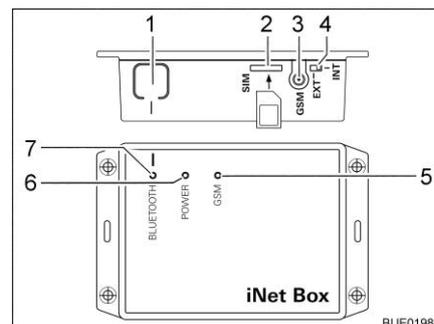

Fig. 230 Truma iNet-Box
- Press the BLUETOOTH button (Fig. 230,1) on the iNet-Box for 1 second. The Truma iNet-Box will be visible in the mobile terminal for approx. 2 minutes (name: "Truma iNet-Box"). During this period, the blue BLUETOOTH LED (Fig. 230,7) will be flashing.
- Carefully insert the mini SIM card with own telephone number and sufficient credit into the slot (Fig. 230,2) of the Truma iNet-Box as shown until it engages. The red GSM LED (Fig. 230,5) must be flashing continuously. If the red LED goes out after 20 seconds: Check mini SIM card.